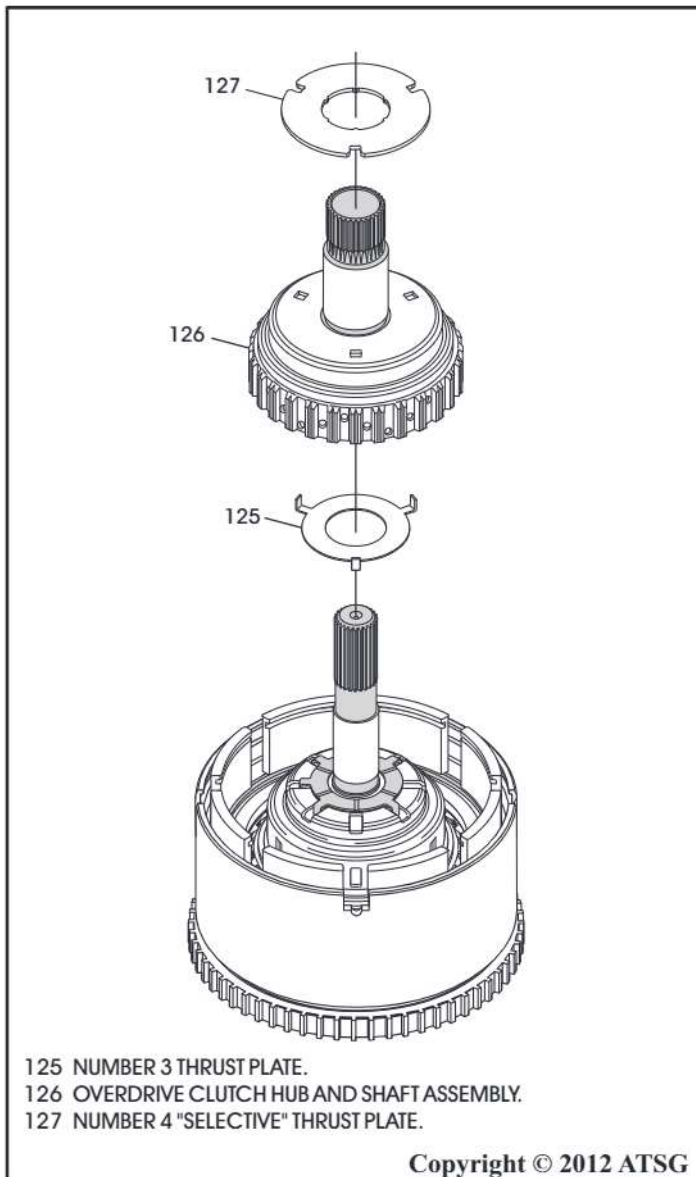

Figure 195
52. Install the number 3 thrust plate into back side of the overdrive clutch hub in direction shown in Figure 195, and retain with Trans-Jel®.
53. Install the overdrive clutch hub and thrust plate over underdrive shaft, as shown in Figure 195, until fully seated against No. 3 thrust washer.